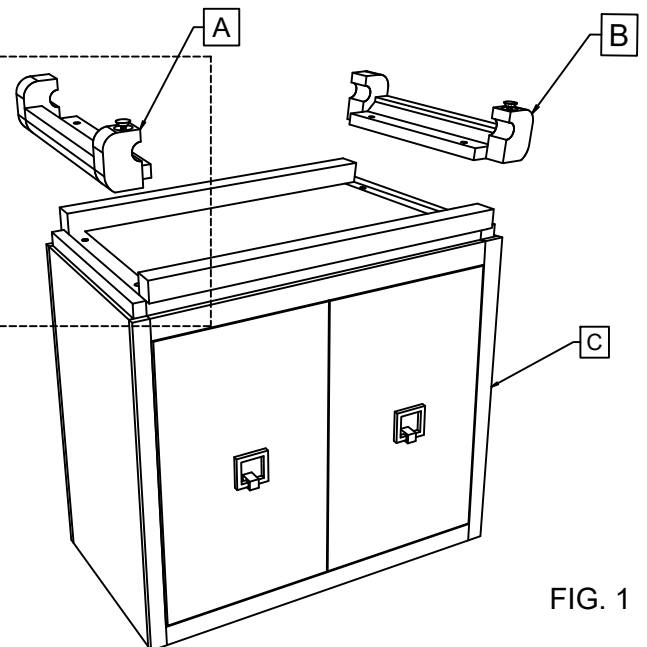

FIG. 1
1. PLACE THE TOP OF THE CONSOLE (C) UPSIDE DOWN OVER A CLEAN SURFACE.
2. PLACE THE LEGS (A) (B) IN THE HOLE OF TE BASE (C) AS SHOWN IN FIG.1.